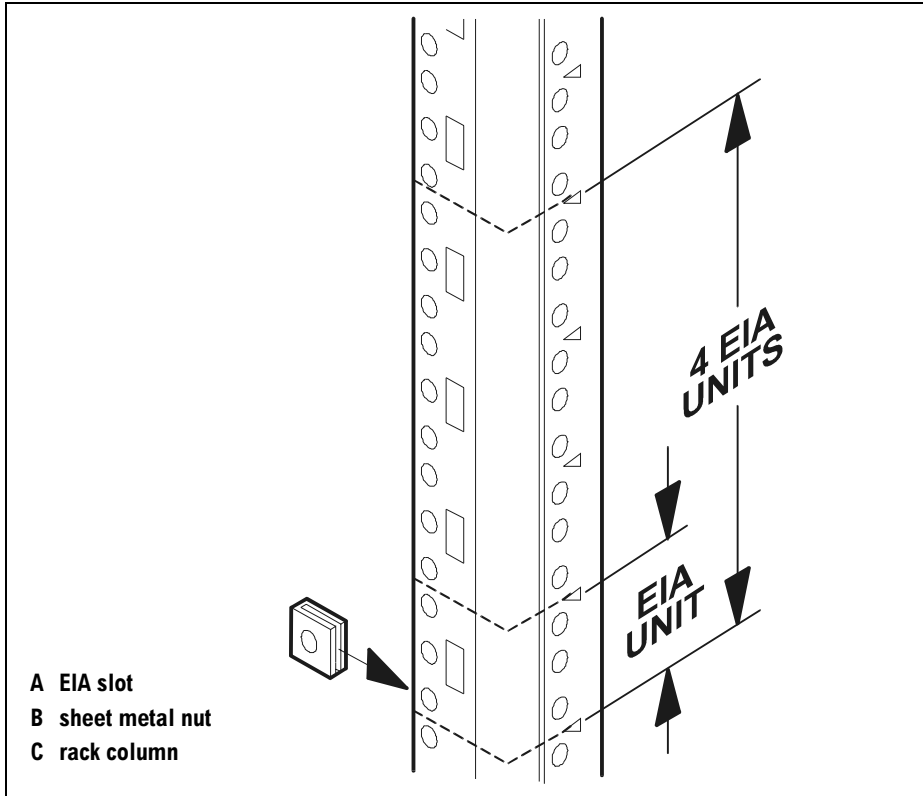

Figure 16 Rack Column Detail – HP Legacy Racks
The disk system consumes 4 EIA Units (U) in an HP original rack, 3.5 for the product and .5 for the rail. Select an empty 4 U and install a sheet metal nut (B in Figure 16) on the bottom hole.